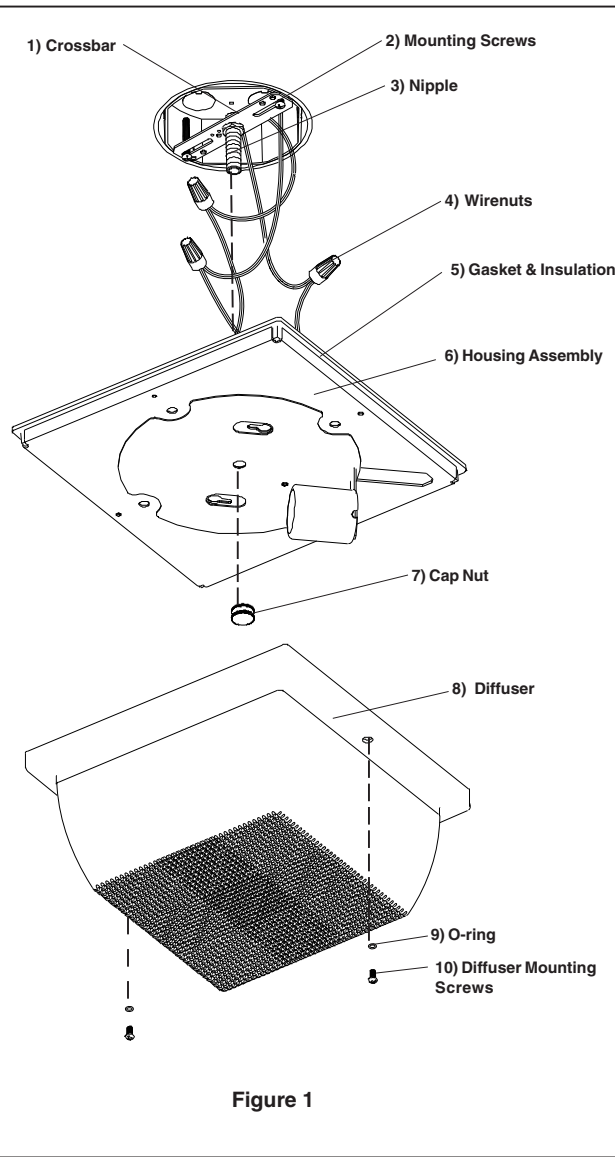

Figure 1
3A. Install Cross Bar (1) to junction box using two Mounting Screws (2) and thread Nipple (3) into center hole of Crossbar (1). See Fig. 1.
3A. Instale la barra transversal (1) usando dos tornillos de montaje (2), rosque la Entrerrosca (3) en el agujero de centro de la Barra Transversal (1). Vea Fig. 1.